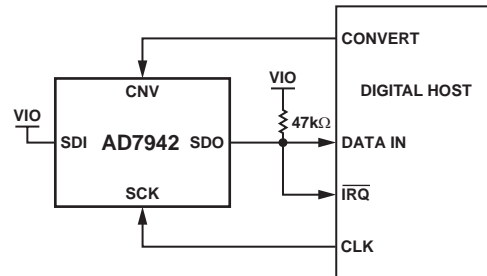
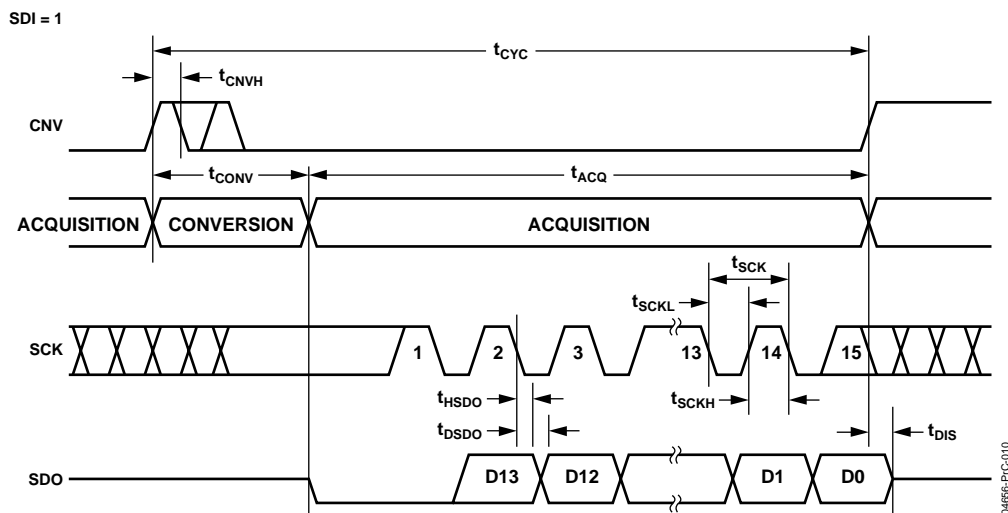
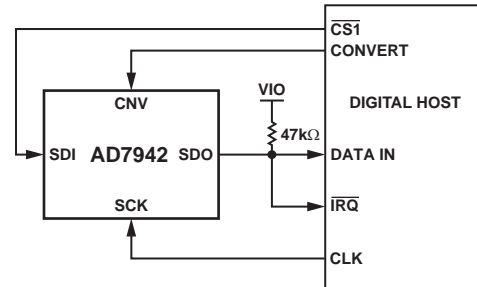
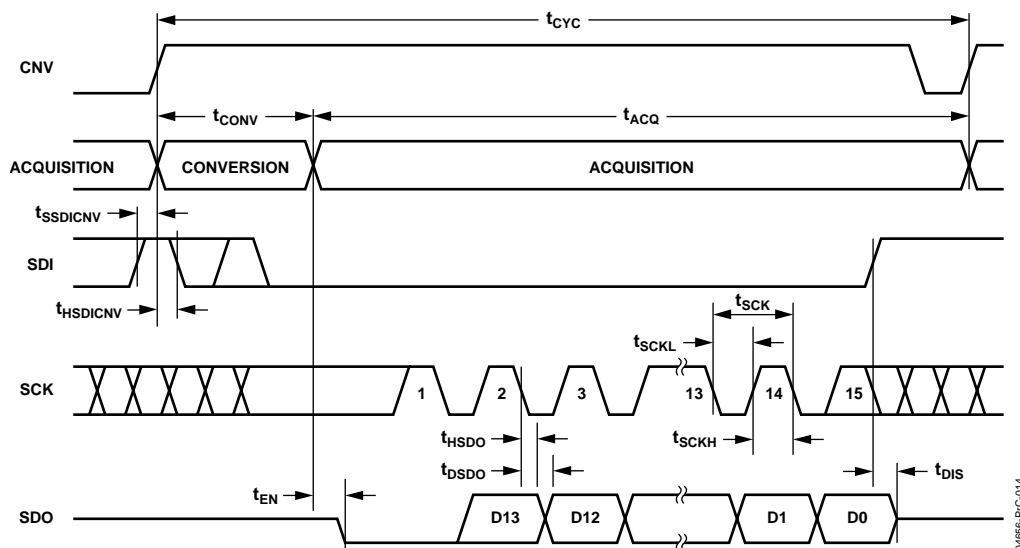

Figure 31.  $\overline{CS}$  Mode 3-Wire with **BUSY** Indicator Connection Diagram (SDI High)
Figure 32.  $\overline{CS}$  Mode 3-Wire with **BUSY** Indicator Serial Interface Timing (SDI High)
Figure 35.  $\overline{CS}$  Mode 4-Wire with *BUSY* Indicator Connection Diagram
Figure 36.  $\overline{CS}$  Mode 4-Wire with *BUSY* Indicator Serial Interface Timing
- In the  $\overline{\text{CS}}$  mode, if CNV or SDI is low when the ADC conversion ends (Figure 32 and Figure 36).
The connection diagram is shown in Figure 31 and the corresponding timing is given in Figure 32.
The connection diagram is shown in Figure 35 and the corresponding timing is given in Figure 36.